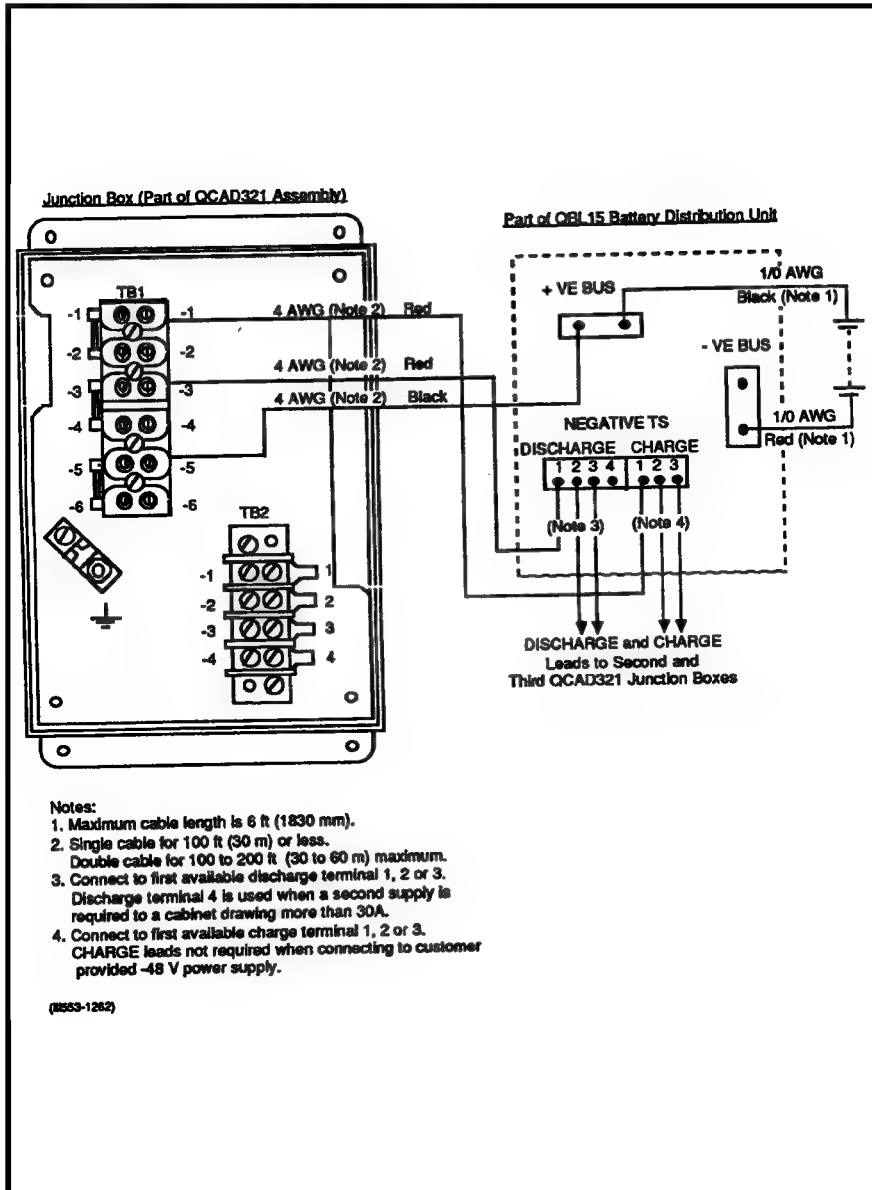

Figure 2-16
- 17 Install and connect a 2 pair 24 AWG Z-type station wire between terminal blocks TB1 and TB2 (-SENSE, +SENSE and ALARM) in the QBL15 battery distribution unit and terminal 1 (-SENSE), terminal 2 (+SENSE) and terminal 3 (ALARM) of terminal block TB2 in the QCAD321 junction box (Fig. 2-16).